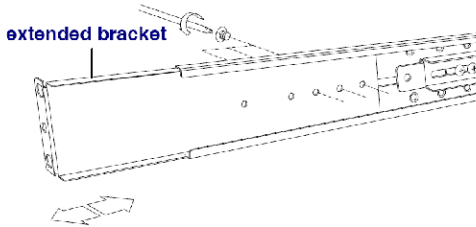

Figure 13 Inserting and tightening the long bracket
4. Tighten at least 2~3 screws along the length you need. **Note!** For medium bracket use the round screws , and for the long bracket use the flat screws . See Figure 13.